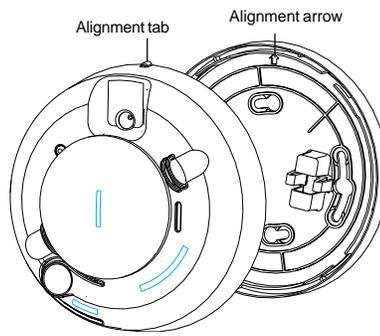

Figure 4. Alarm-to-base Alignment
4. Attach the alarm to the mounting base by lining up the alignment tab (see Figure 4) on the alarm with the alignment arrow on the mounting base, then put the alarm on the base and turn it clockwise about 15 degrees. The alarm should snap into place.